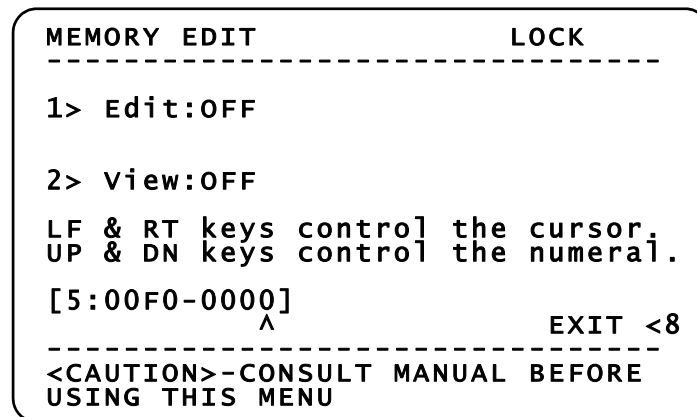

Figure 5 MEMORY EDIT menu with new address
- Use the RT and LF control keys to move the cursor (^) along the address line. Using the UP and DN control keys to select numerals and letters, change the address line from [0:0000-FFFF] to [5:00F0-0000] (FFFF changes to 0000 automatically) as shown in Figure 5.